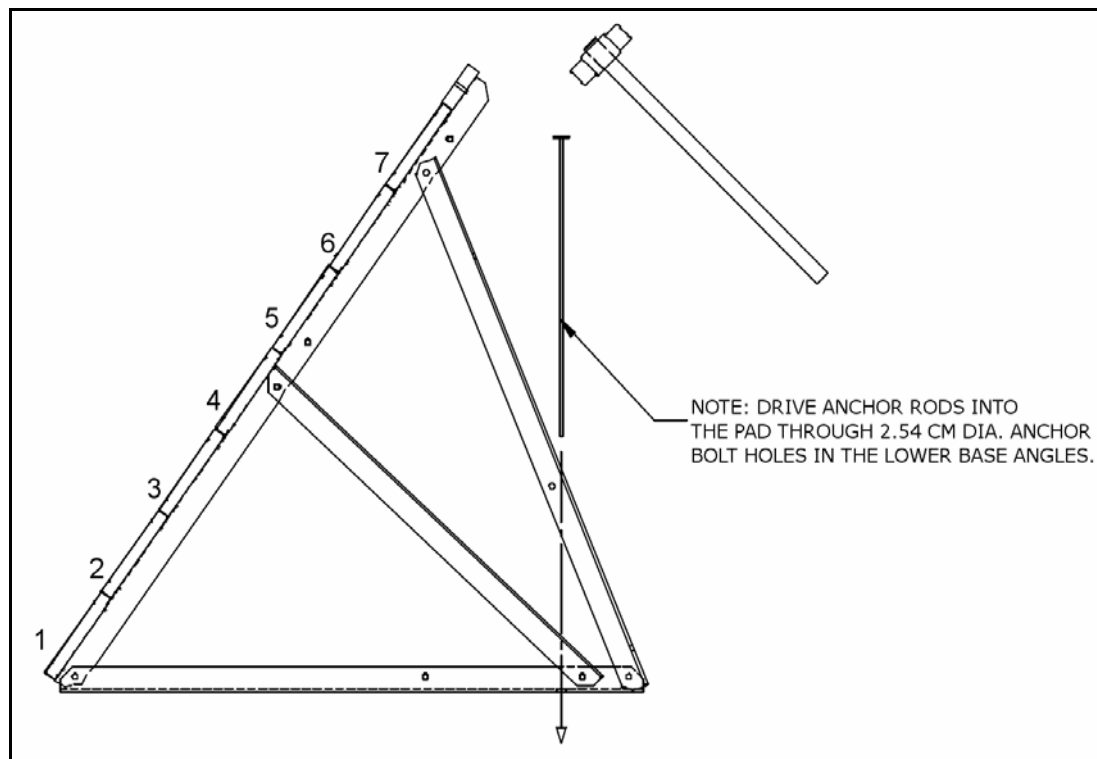

Figure 3.6 Anchor Rods
2. Using a large hammer, drive the anchor rods through the 2.54 cm holes in the lower base angles as shown in Figure 3.6.
Note: *The 1.22 m and 1.83 m Temp-Stor Containment Wall Systems require 91.4 cm anchor rods, while 2.74 m systems require two 1.22 m anchor rods per lower base angle. See Figure 3.6.*